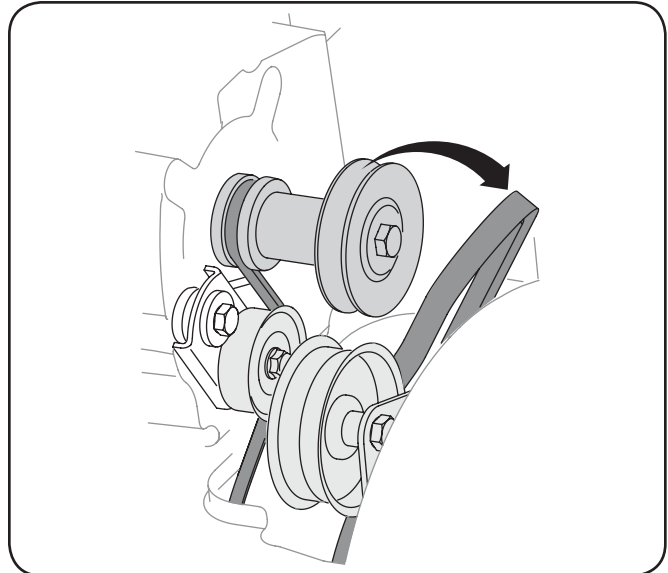

Figure 7-3
5. Roll the auger belt off the engine pulley. See Fig. 7-3.